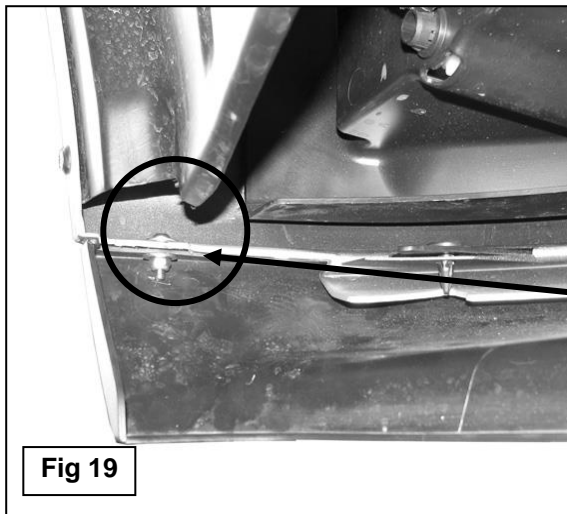

Fig 19
11. Check the fit and reinstall the splash guard using the factory hardware. Use (2) 5mm x 20mm Button Head Bolts, (4) 5mm Flat Washers and (2) 5mm Lock Nuts to replace the rivets if required, **(Figure 19)**.